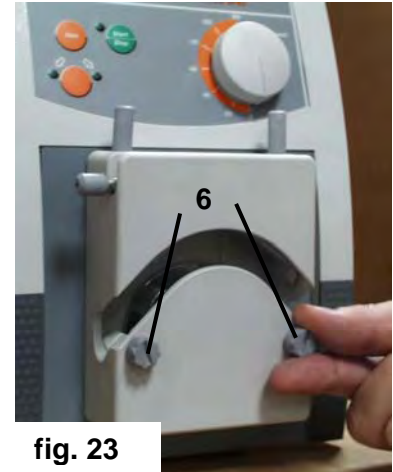

fig. 23
- Unscrew 2 ea. knurled head bolts (6 fig. 23) from SP quick pump head (3) with about 10 revolutions CCW. Replace with long knurled head bolts (7).
- Beware short knurled head bolts (6 fig. 23) for future use.
- Fit SP quick d pump head (8), with spacer (42) over threaded end of long knurled head bolts (7), seat long knurled head bolts and secure by turning clockwise; press two ea. pump heads (3 & 8) together. SP quick (3) properly needs to be caught by the SP quick d (8) counterpiece. As required, rotate rotor by hand (to this end open hose bed, refer to Chapter 3.3) Secure pump pack on pump drive as described in Chapter 2.1.